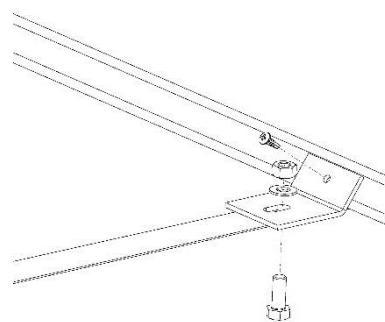

Figure 6.5 Tank Clamp
18. Take the tank clamp and bolt it to the tank strap behind the tank. To complete the security, screw fix the 2 tank clamps to the tank using the two (2) self-drilling screws provided (Figure 6.5).